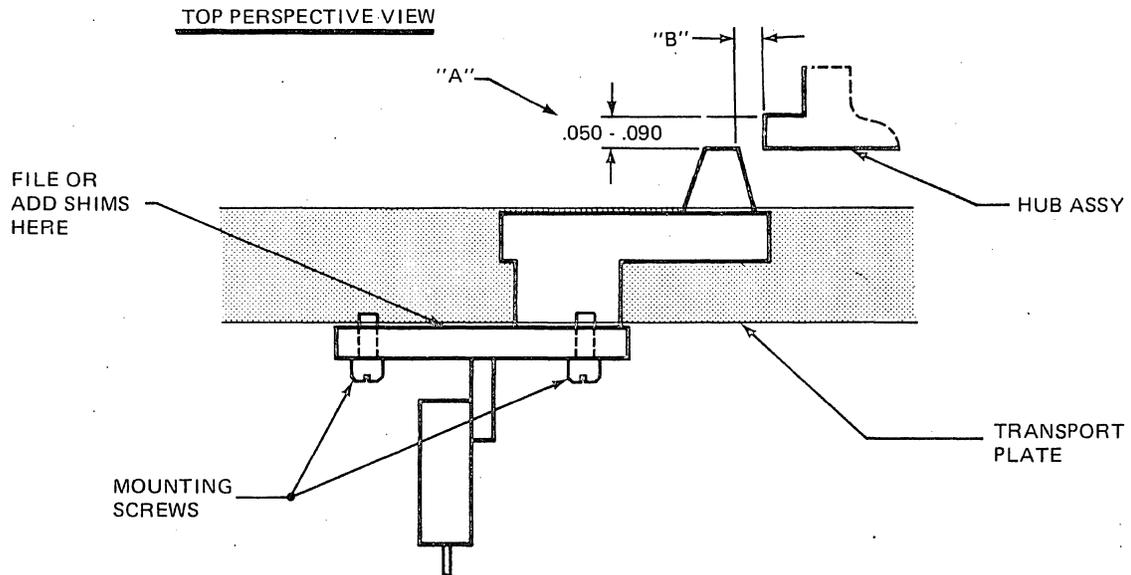

Figure 4-32. File Protect Assembly Mounting
2. Insert and lightly tighten the mounting screws (2) -- the file-protect assembly should still be moveable.
3. Adjust the nozzle so that the distance from it to the hub assembly (gap B in Figure 4-32) is approximately the depth of one data processing card. Also verify that the flange of the hub assembly extends 0.05-0.09 inch beyond the nozzle of the file-protect assembly (gap B in Figure 4-32).